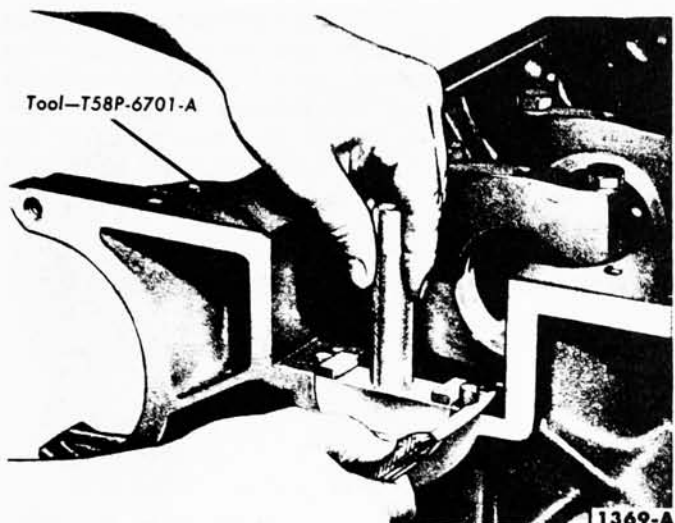

FIG. 37—Seal to Block Installation
1. Be sure that the rear journal oil seal grooves are clean, then install a new rear journal oil seal in the block (Fig. 37) and rear main bearing cap (Fig. 38). After installation, cut the ends of the seals flush.